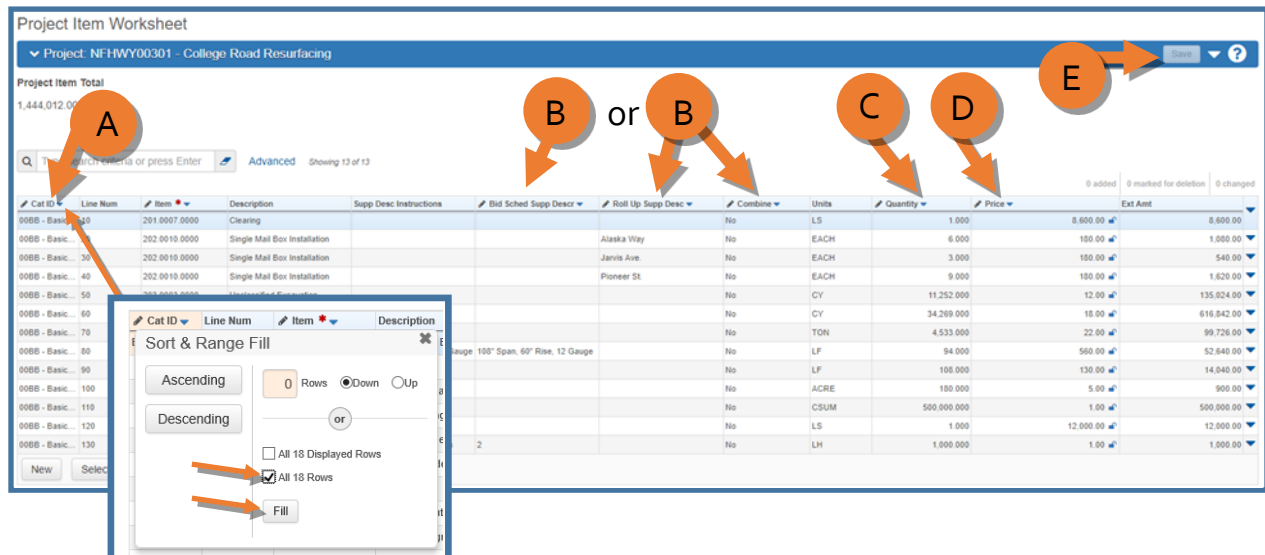

Figure 18.10
Enter in the remaining item information into your worksheet (Figure 18.10).
- If all your items belong to the same category, use the Range Fill option to populate the remaining category fields. Click the **blue down arrow** next to the CatID label check to fill all Rows and click <Fill> (see Figure 18.10 inset).
10. (B) Double click and enter a **Bid Schedule Supplemental Description** if necessary or required (project items with a Bid Schedule Supp Description cannot roll up).